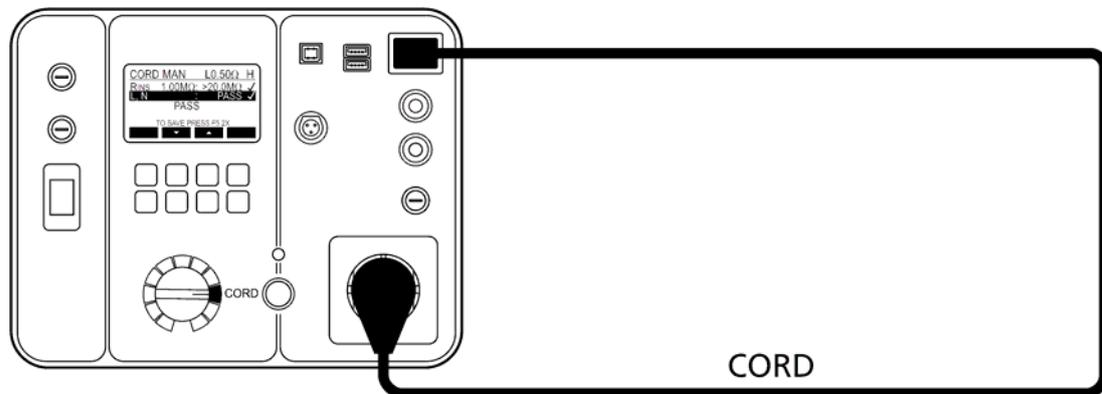

Figure 31: CORD test connection
Compensation of test adapter shall not be carried out when testing standard IEC cords (as no adapter is used), see the figure 31. The symbol "C" (compensated (8)) must not be present on the upper line, see the figure 32 – right picture.